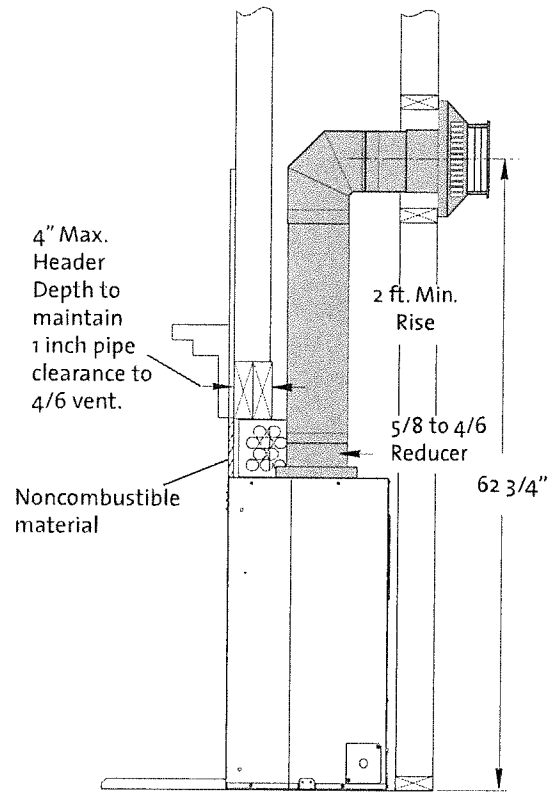

Figure 12.
Use the included Simpson Duravent 8x6 5/8 Vent Decreaser to transition to 4/6 vent pipe which enables 1" clearance to be maintained with a maximum header thickness of 4 inches. See fig. 12.
- 4/6 vent requires a 2 foot **minimum vertical rise** from the top vent collar. See fig. 12.